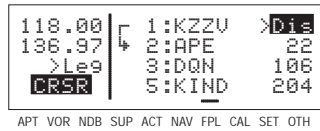

Figure 4-140
1. Turn on the cursor (**CRSR**); it will come up over the cyclic field, which in this case is displaying distance (**Dis**) in nautical miles (figure 4-140).